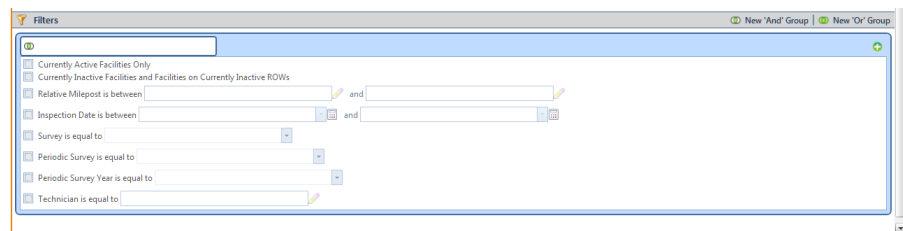

Figure 7-37. Filters Group Box
- c To apply a filter to the grid, click the check box for a filter listed in the *Filters* group box (Figure 7-37). You can select more than one.